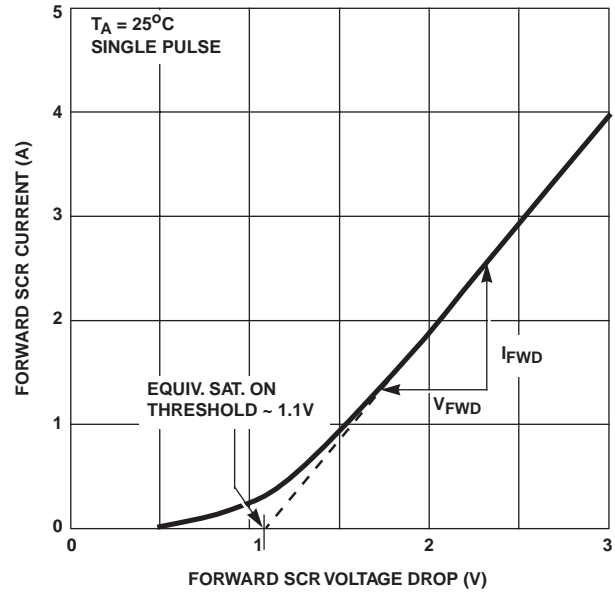

FIGURE 3. HIGH CURRENT SCR FORWARD VOLTAGE DROP CURVE
- Refer to the Figure 3 graph for definitions of equivalent “SCR ON Threshold” and “SCR ON Resistance”. These characteristics are given here for thumb-rule information to determine peak current and dissipation under EOS conditions.